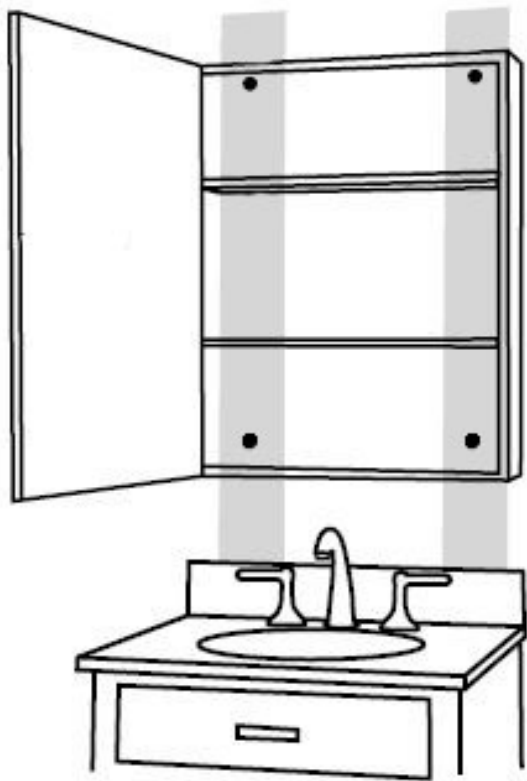

Fig. 3
5. For drywall/wood stud applications insert wood screws into pre-drilled mounting holes located on the interior sides of the cabinet. (Pro-tip do not overtighten with this will wrack the cabinet) use a level to test that the cabinet is plumb. (Figure 3)